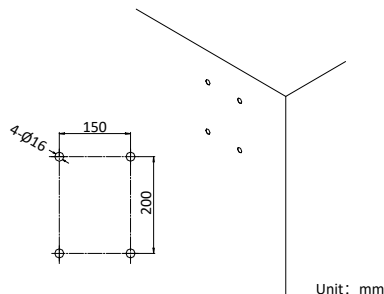

Figure 2-2 Drill Screw Holes
- 1) Drill four $\varnothing 16$ screw holes where you want to install the PTZ Camera according to the holes on the bracket as shown in Figure 2-2.